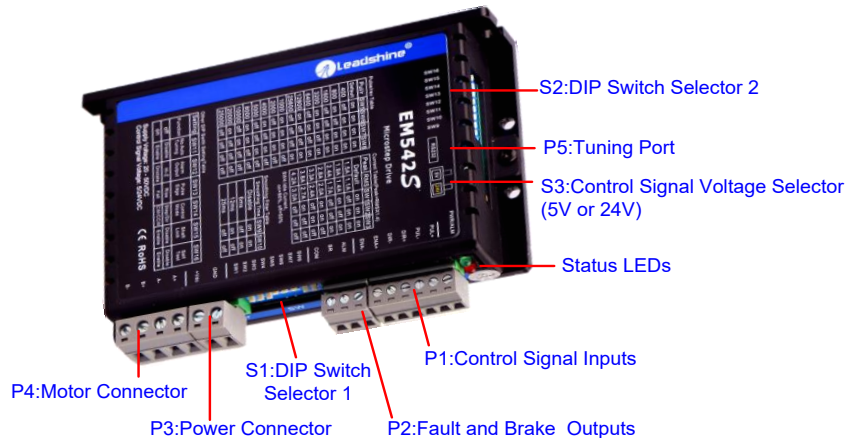

Figure 2 Connectors, DIP switches, and LED locations
DIR- (CCW-)	(4) Single pulse (step & direction) or double pulse (CW/CCW) is set by DIP Switch SW14 (5) DIR signal requires advance PUL signal minimum 5 μs in single pulse mode (6) The activated edge of PUL and DIR is set by DIP Switch SW13 (7) The factory setting of control signal voltage is 24V, must need to set S3 (figure 2) if it is 5V
ENA+	Enable Connection: Optional. (1) Optically isolated, differential. (2) Disable the drive by 4.5-5.0V or 24V input connection; enable the drive by 0-0.5V connection(default no connection) (3) ENA signal requires advance DIR signal minimum 5μs in single pulse mode (4) The default control signal voltage is 24V, to set S3 (figure 2) if it is 5V (5) Enable time to be at least 200ms
The EM542S can accept differential or single-ended control signals (pulse, direction, and enable) in open-collector or PNP connection through the P1 connector (figure 2). It is recommend to add an EMI line filter between the power supply and the drive to increase noise immunity for the drive in interference environments.
The first 8-bit is located on the side (DIP switch selector 1 in Figure 2) and used to configure settings of micro step resolution, output current, and motor standstill current as shown below, the factory setting of SW1-SW8 is **ON, ON, ON, OFF, OFF, OFF, ON, ON**.
The second 8-bit DIP switch is located on the top (DIP switch selector 2 in figure 2), and used to configure settings of control command filtering time, motor auto-configuration, fault output impedance, pulse active edge, control mode, lock shaft, and self-test as shown below, the factory setting of SW1-SW8 is **OFF, OFF, OFF, OFF, OFF, OFF, OFF, OFF**.
The Third 1-bit selector is located on the top (DIP switch selector 3 in figure 2), used to configure the voltage of control signals. For the safety of optically coupled, the factory setting is 24V, which no need to connect 2K resistors like the old drives, making it easier to use. When the voltage of the control signal is 5V, the S3 must be set to 5V, otherwise, the motor won't work.